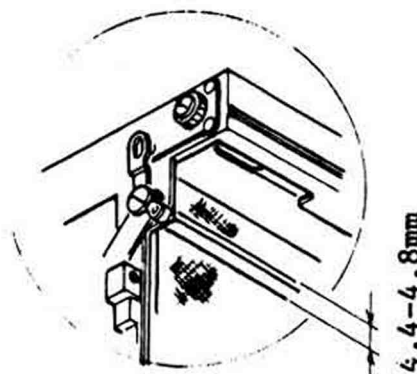

Fig. 36
- a. In above case width of both curtain metals should be 4.4mm to 4.8mm at each side as shown in Fig. 36.
- b. As the parallel of 1st curtain metal at its released position is OK, but, in Fig. 36 its parallel is no good.